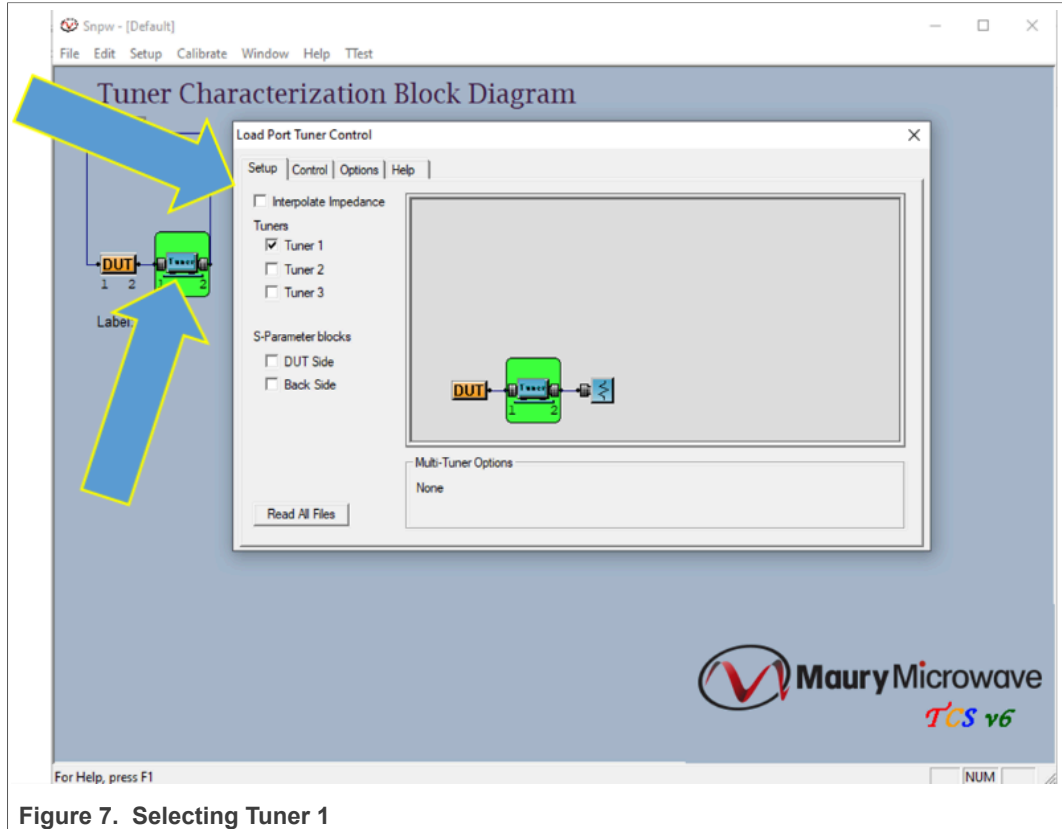

Figure 7. Selecting Tuner 1
1. Click on the green tuner box, and the windows is opened, as shown in Figure 7. Verify that **Interpolate Impedance** is not selected (on the **Setup** tab) and **Tuner 1** is selected.